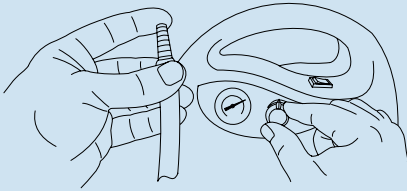
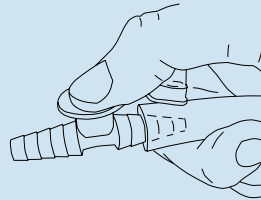

Fig. 23
Fig. 24
2. Keep the opening of the suction tube (fig. 23) and of the fingertip (fig. 24) shut.